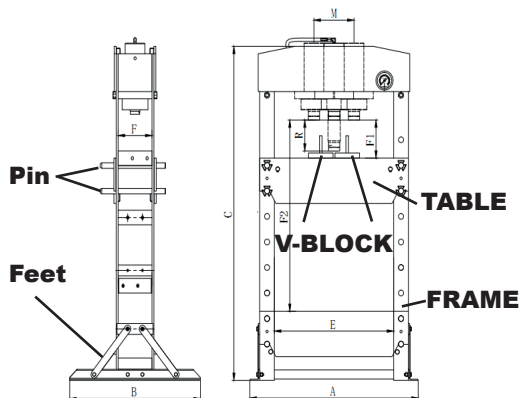

Fig. 02
- Main structures of PRESS include Pin, Feet, V-Block, Table, Frame. (Fig. 02)